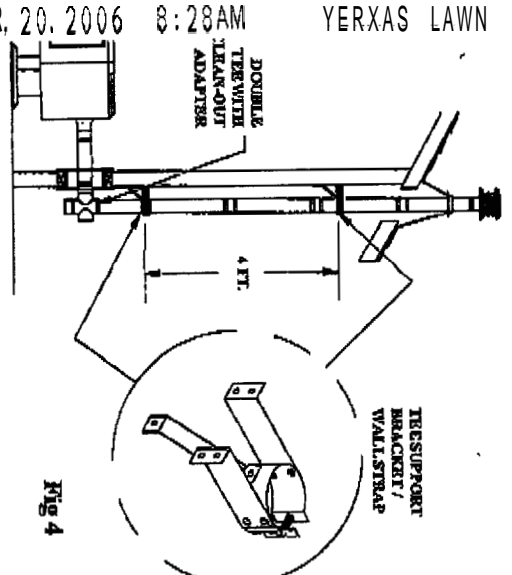

Fig 4
4. If the flue exit is on the back of stove, and an exterior vertical installation is desired (Figure 4)